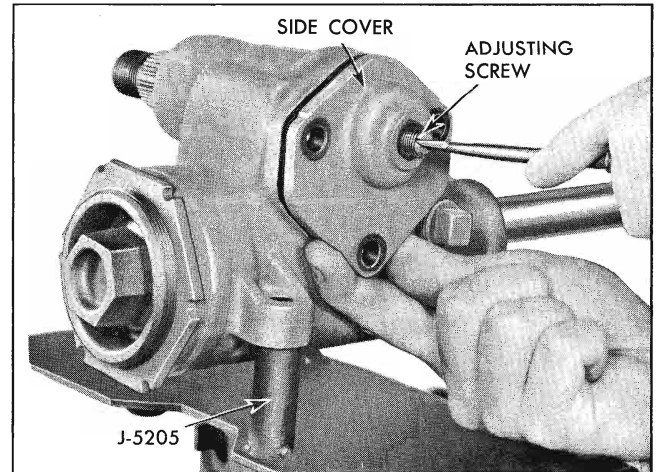

Fig. 9-28 Removing Side Cover
3. Remove side cover and gasket by turning adjusting screw clockwise through cover (Fig. 9-28).